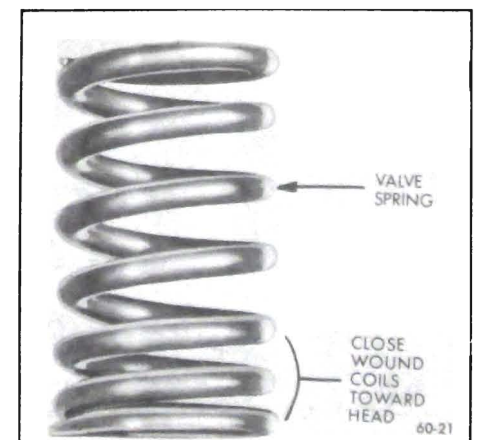

Figure 60-104 - Valve Spring
6. To replace, set the valve spring and damper, valve shield and valve cap in place. THE CLOSE COILED END OF THE SPRING IS INSTALLED AGAINST THE CYLINDER HEAD. See Figure 60-104. Compress the spring with J-22891 and install oil seal in the lower groove of the stem, making sure the seal is flat and not twisted.
12. Lube with "Service MS" engine oil and reinstall valves, valve springs, cap, oil seal, and cap retainer, using same equipment used for removal. Install valve spring with closely wound coil toward the cylinder head. See Figure 60-104.